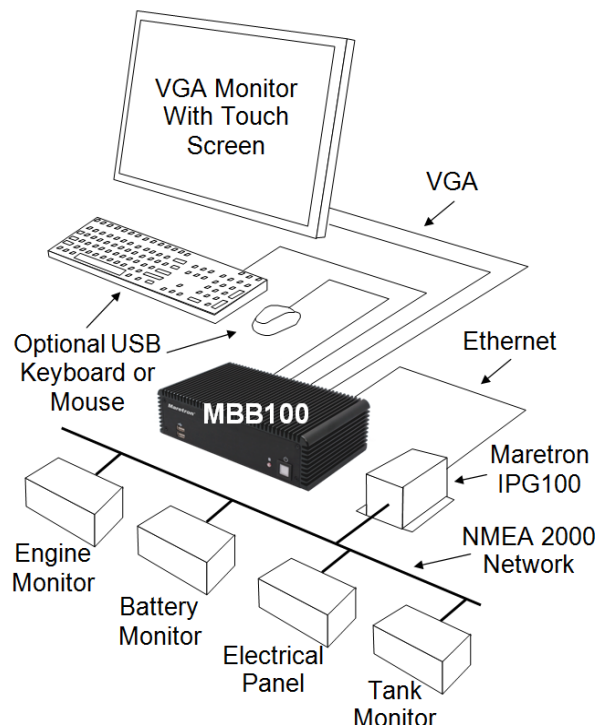

Figure 1 – MBB100 Network Diagram
The MBB100 connects to a monitor through a VGA connector and associated touch screen through a USB or serial port connection. Alternatives to controlling the N2KView® software through a touch screen include keyboards, mice, or track balls connected through USB. The MBB100 has an Ethernet port for communicating with an NMEA 2000® network (see Figure 1) through Maretron's Internet Protocol Gateway (IPG100). Alternatively, the MBB100 can network through Ethernet to a PC running N2KServer®. Although the MBB100 comes pre-installed with the N2KView® software, a separately purchased N2KView hardware license key plugged into the IPG100 (or PC) is required (see IPG100 User's Manual for more details). The Ethernet port is also used for connecting Internet Protocol (IP) cameras for viewing within the N2KView® software.